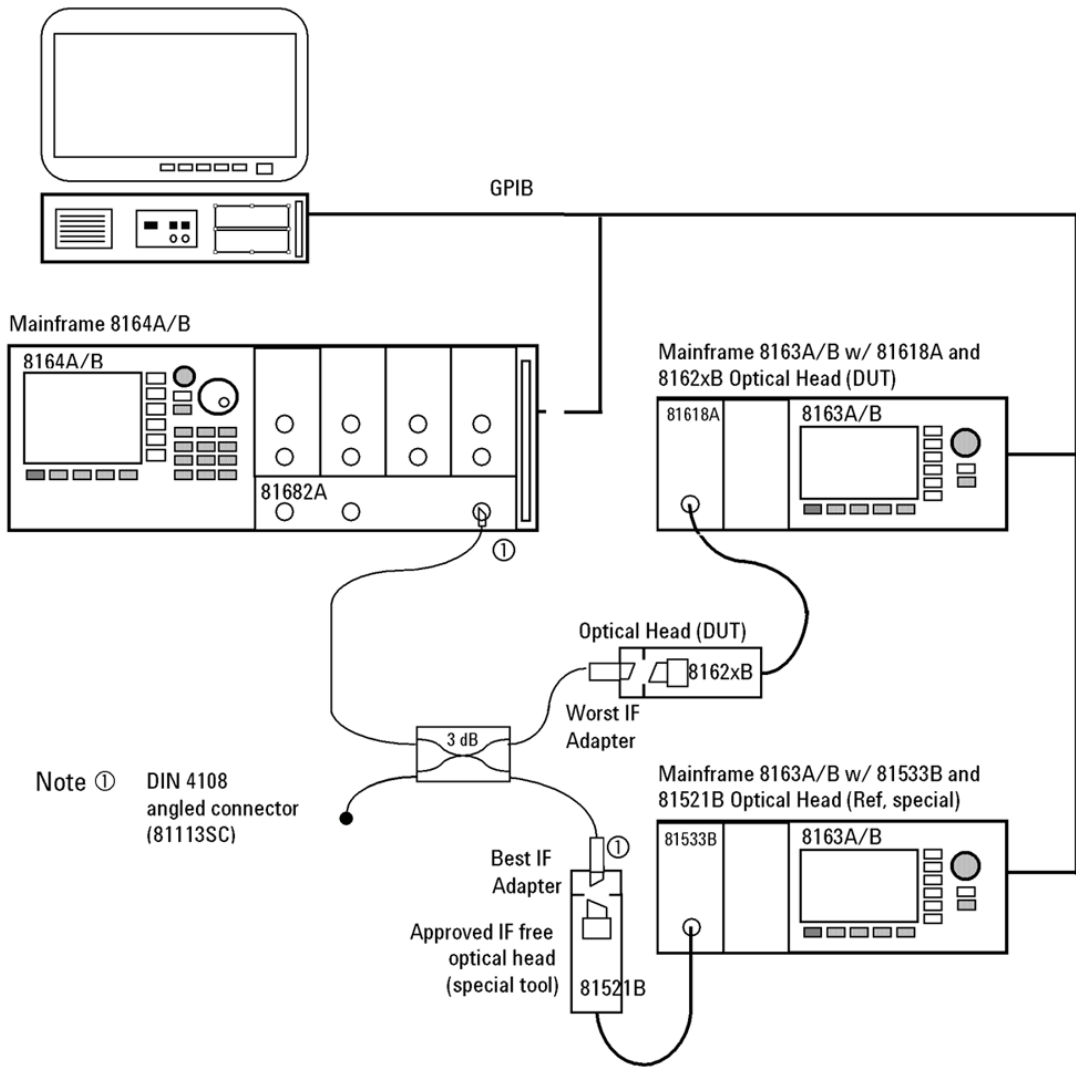

Figure 14 Setup for Relative Uncertainty due to Interference Measurement
- 9 Disconnect the 81610CC Reference Cable from the setup and connect a 81113SC user cable to the Return Loss Module and leave the other end open as shown in Figure 14.
Refer to Figure 14 on page -68 for a test setup to verify the relative uncertainty due to interference within the optical head optical assembly. In order to perform the relative uncertainty due to interference test, it is mandatory to use two mainframes, since the time difference between measurement A and B for a specific wavelength point has to be no greater than 2 ms. Due to this short measurement interval, the performance test of the Relative Uncertainty Due to Interference can only be performed under computer control.